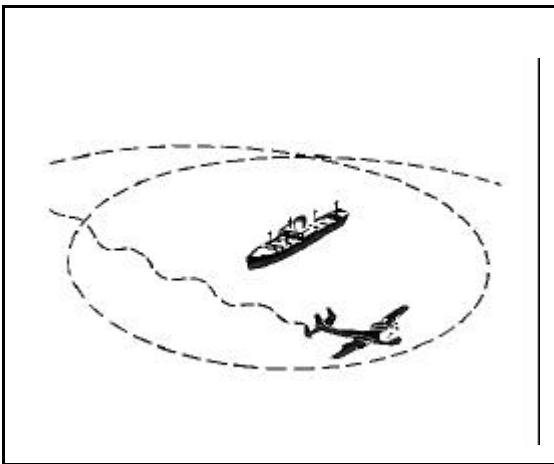

Figure 10-39. Aircraft Signal
- The airplane circles over the ship at least once. Then the aircraft crosses the bow of the ship as close as possible. At a low altitude, the pilot opens and closes the throttle or changes the propeller pitch (Figure 10-39).